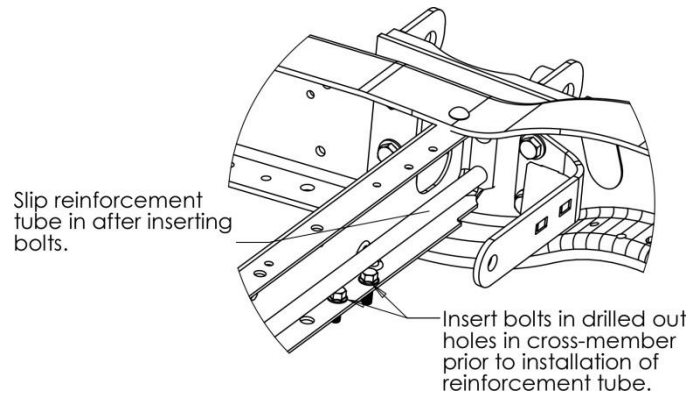

Figure 13. Track bar mount attachment bolts.
8. Locate (2) 3/8-16 x 1.00 Hex Flange Bolts.
9. Place the bolts in the lower holes of the aft of axle cross-member. See Figure 13.
7. Loosely install the Cross-member Reinforcement Tube as shown in Figure 13 using the (1) 1/2-13 x 1.75 Hex Flange Bolt and the (1) Wedge Lock Washers.